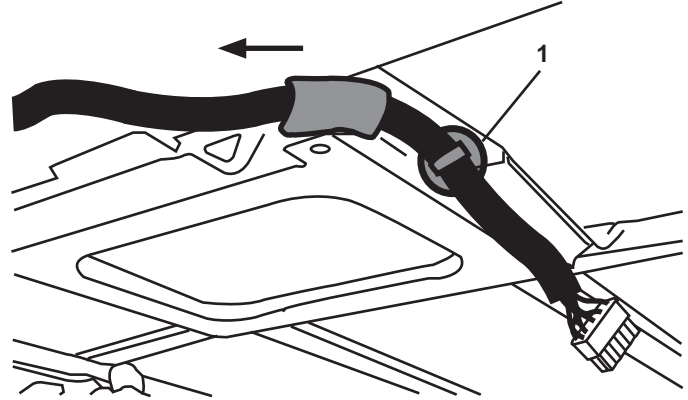

FIGURE 58
- 2.) INSTALL THE CHRISTMAS TREE WIRE TIE (1) ON THE MAIN HARNESS INTO THE ANCHOR HOLE ON THE DRIVER SIDE OF THE BOTTOM DVD MOUNTING BRACKET, SECURING THE MAIN HARNESS IN PLACE. (SEE FIGURE 58)
- 3.) ROUTE THE DVD MAIN HARNESS FORWARD TOWARDS THE FRONT OF THE VEHICLE AND AROUND THE BRACKET EDGE TOWARDS THE PASSENGER SIDE OF THE VEHICLE. (SEE FIGURE 58)